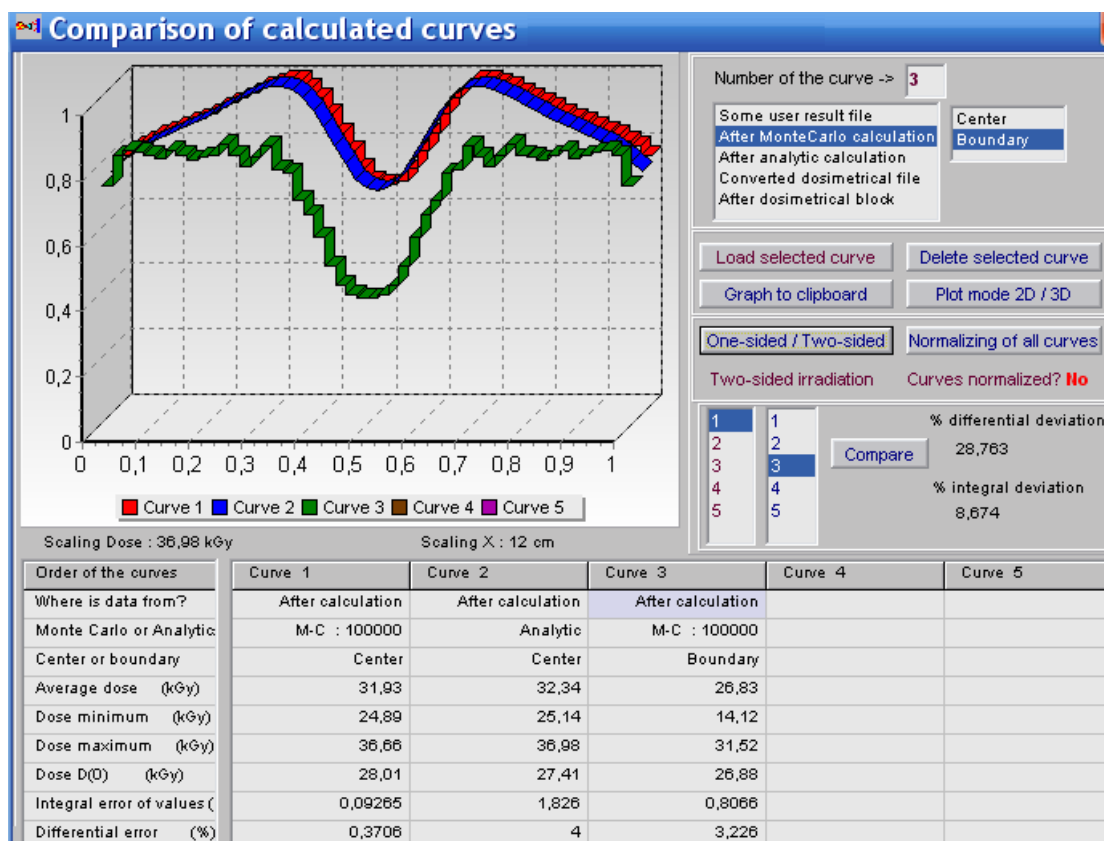

Fig.19. The form of "Comparison of calculated curves".
- **Click** the button **“Comparison”** in the Main form of the **Software ModeRTL** (See Fig.1). The form of **“Comparison of calculated curves”** will be opened for analysis of calculated and experimental data of 2D absorbed dose distributions in an irradiated target (See Fig.19).
In a such way you can enter for analysis up to 5 curves of 2D dose distributions in the graph area. (See Fig.19).
- The function of button "**Compare**" (right down side in the "**Comparison of calculated curves**" frame) allows to make comparison of **2D dose distributions** for 2 any curves to obtain the values of differential and integral deviations in % between compared curves. (see Figs. 19. and 20).